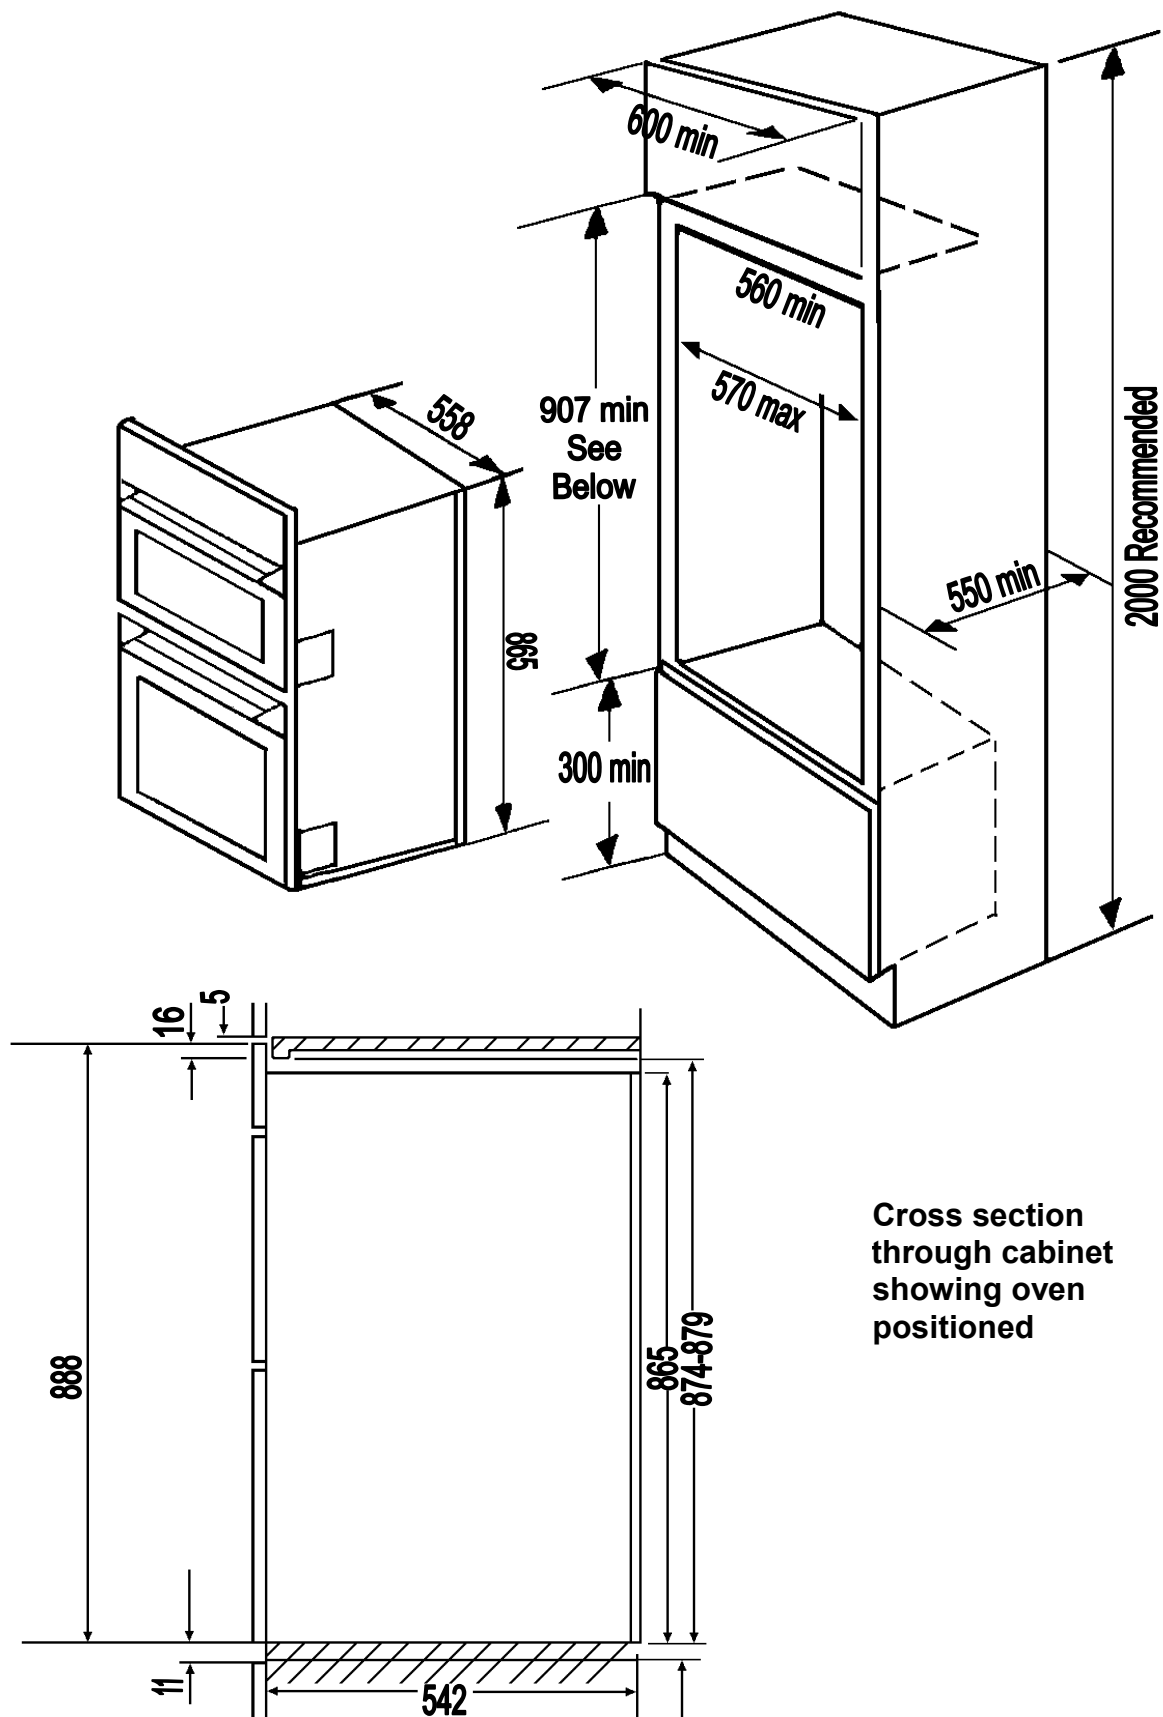

Fig. 2 Built In Installation
- This appliance is designed to be fitted in cabinets of the recommended dimensions as shown (Fig. 2).
- Make sure that the cabinet is the correct size for the appliance to be fitted (Ref. Fig. 2).